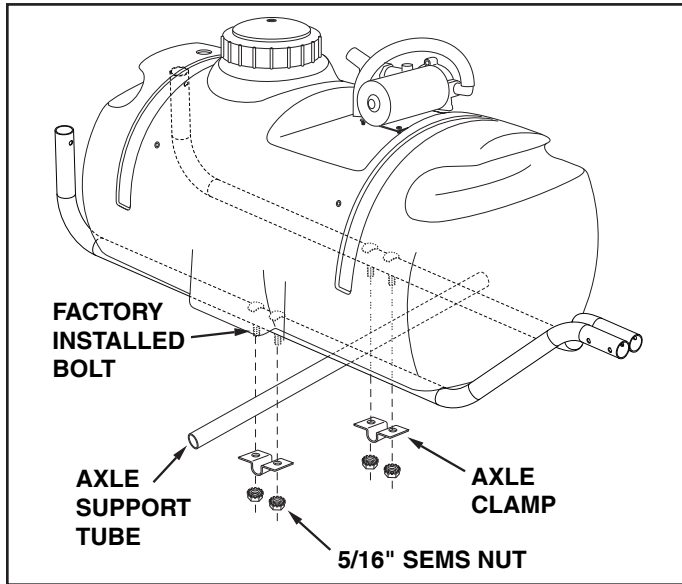

FIGURE 1
2. Assemble the axle clamps, axle support tube and four 5/16" SEMS nuts to the factory installed bolts in the frame tubes. See figure 1.